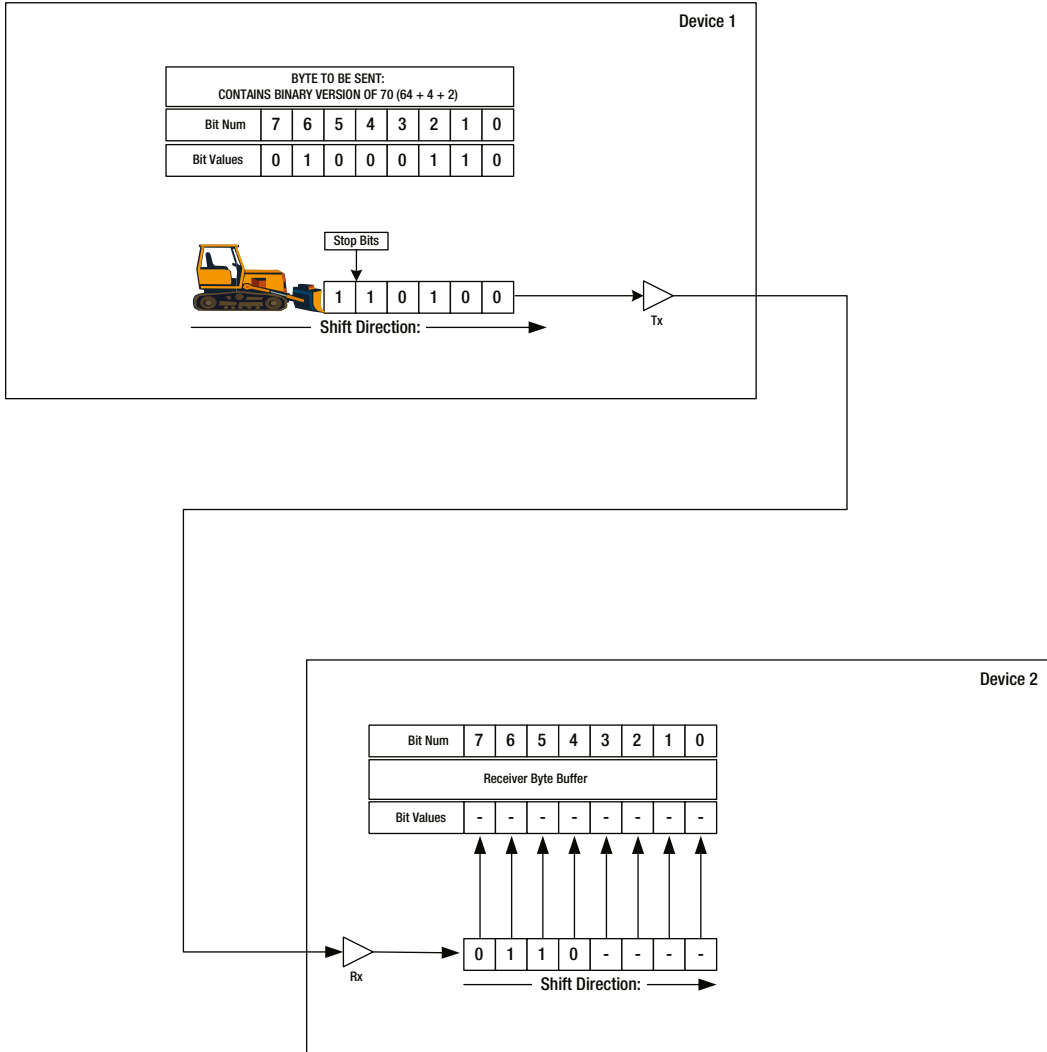

Figure D-4. Asynch serial transmission illustration (halfway done)
- The byte contents are copied into a transmitter buffer, which also contains space for some extra bits, a start and two stop bits (see Figure D-4, below).
- Figure D-4 shows how things will look after four bits of the payload have been sent in this fashion. As you can see, although the receiver read the start bit, it has not saved it anywhere. However, bits 0 to 3 of the payload byte have been shifted into the receiver's RX line buffer and bit 4 is now in transfer.